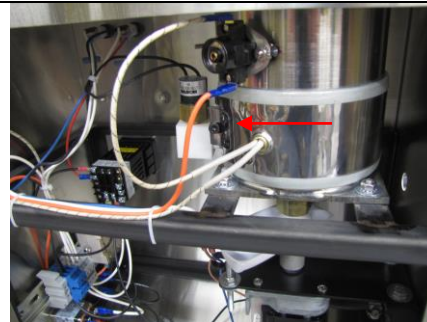
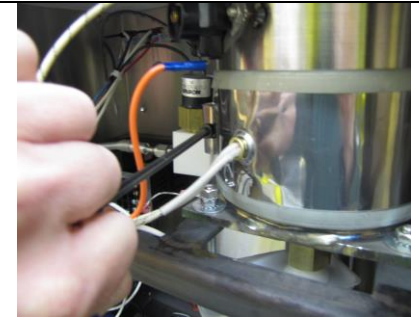

Figure 3
Figure 4
2. Identify the Heating Band to be replaced. See Figure 3. There is one bolt holding it tight to the stainless steel vessel. Use a 3/16" hex driver (Allen Wrench) and remove said bolt as shown in Figure 4.